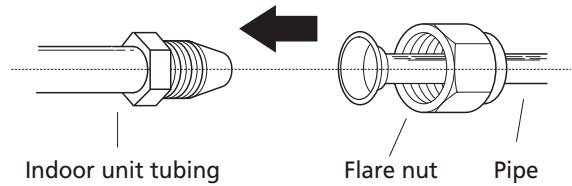

Fig. 5.7
- Align the center of the two pipes that you will connect. See Fig. 5.7.